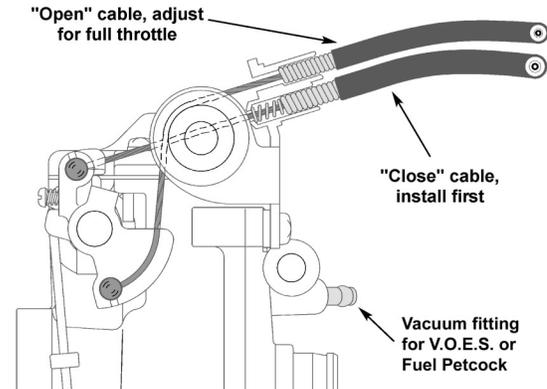

Figure 3: Cable installation guide
- Connect the "close" cable first (see Figure 3).
- Install the "open" cable next (see Figure 3).